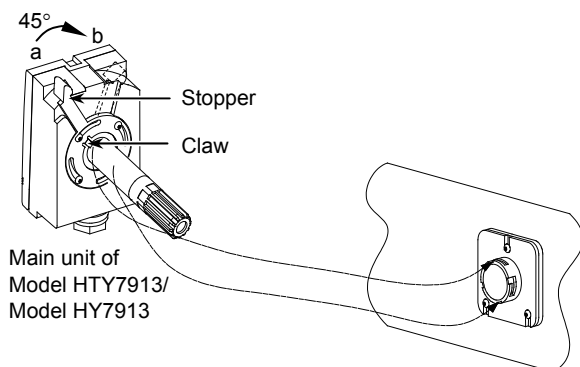

Figure 9. Mounting the main unit on the panel
- 3) Turn the main unit stopper 45 degrees (from 'a' to 'b' shown in Fig. 9) to unlock, and insert the probe of the main unit into the bracket as the main unit claws and the bracket slits match.